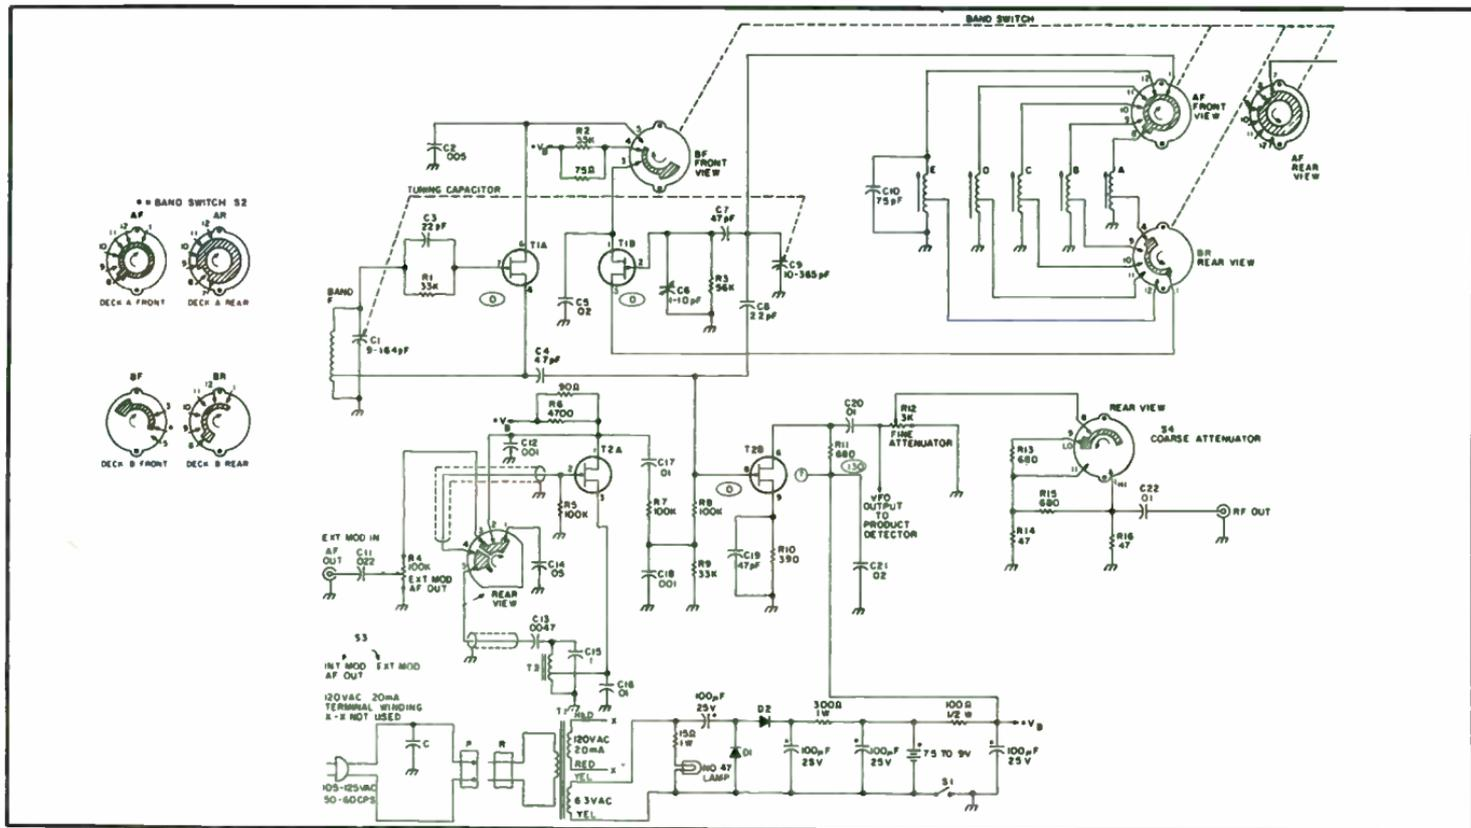

Fig. 9-9. Modified IG-102 circuit. T1A, T1B, T2A, and T2B—four rf FETs equivalent to Radio Shack package #276-1623 or Calectro #K 4-634.
- All tube sections are replaced by four field effect transistors, such as those available from Radio Shack— #276-1623 or Calctro—#K 4-634 (Fig. 9-9). Some of these Radio Shack #276-1623 packages contain assortments of both rf and af field effect transistors. In testing them, the af types will not oscillate. One particular type which responds well at radio frequencies is the 2N5951. The white-black types are af and do not oscillate at radio frequencies; also, the metallic types are unsuitable.